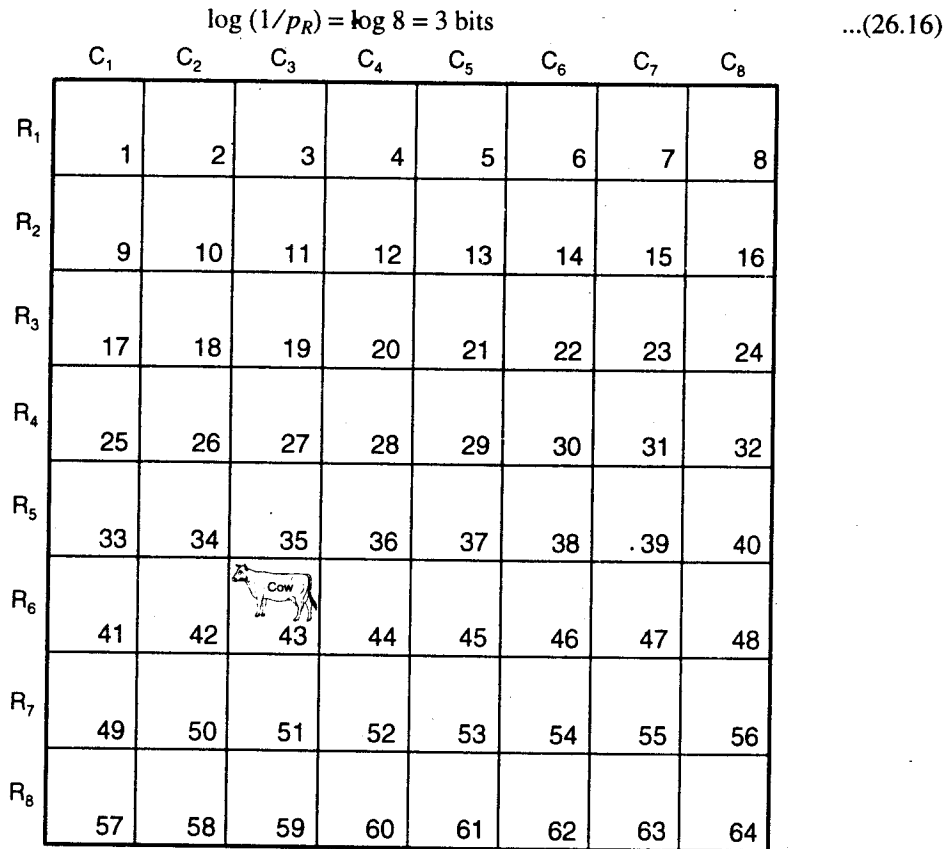

Fig. 26.3. Numbering of squares of field into which cow has strayed
**Example 4.** Fig. 26.3 shows that a large field is divided into 64 squares. In the dark night, a cow has entered in this field. This cow is located by a member of searching party who sends back an information giving the location of the cow as the 43rd square. Calculate the amount of information obtained in the reception of this message.